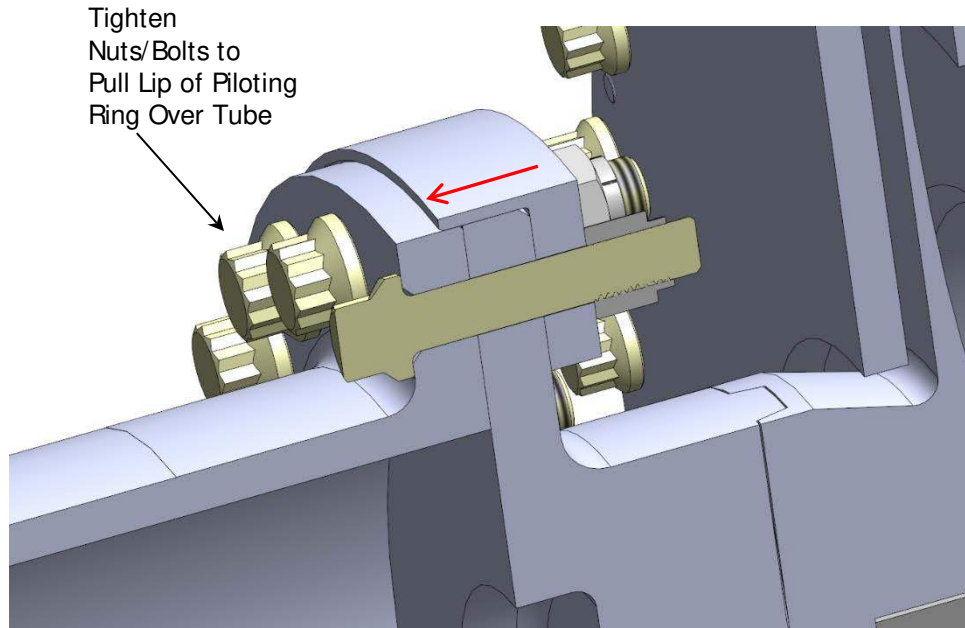

Figure 13 – Piloting Ring Fit Over Tube OD
4.2.3 While supporting the weight of the tube, tighten the bolts/nuts a few turns at a time in a criss-cross pattern to draw the piloting ring over the tube flange evenly (see Figure 13). Install the remaining bolts and nuts and torque evenly in a criss-cross pattern to the torque shown on drawing HC-6483.